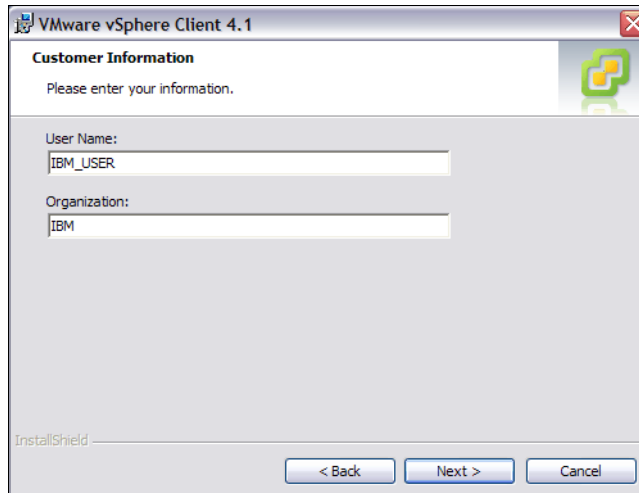

Figure 22-44 ESX Client Installation - Organizational Information
8. In the Customer Information window (Figure 22-44 on page 684), type your organizational information and click **Next**.